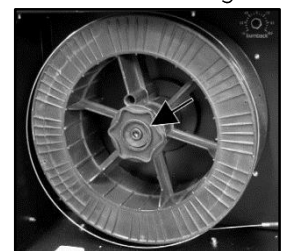

Fig. 20
14. Insufficient tension on the wire spool can allow it to spin after the wire feeding mechanism stops, forcing loops of wire off the spool to become tangled. Increase the pressure on the tension spring inside the spool holder assembly by adjusting the tension screw if this happens (Fig. 20).